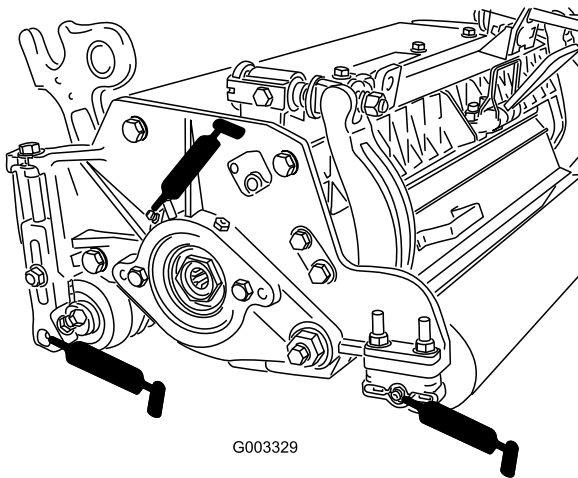

Figure 21
Each cutting unit has (6) grease fittings (Figure 21) that must be lubricated regularly with No. 2 General Purpose Lithium Base Grease.